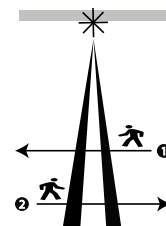

Figure 10:
Alarm direction	Define the detection direction. The alarm direction function can reduce the probability of false alarms by more than half when the detector is protecting a door or a gate. With this function, the device can differentiate between property inhabitants exiting, and potential intruders entering the premises. Note: This feature is only available in PowerMaster panels version 20.2 and higher. Optional settings: Both (default), Left to right , Right to left . See Figure 10 for the alarm direction diagram. In Figure 10, Number 1 shows a Right to left detection pattern and Number 2 shows a Left to right detection pattern. The right and left directions refer to the point of view of the installer while observing the detector in its fixed position.
5. When you receive a good or strong signal, repeat the process from the other direction. See Figure 10.